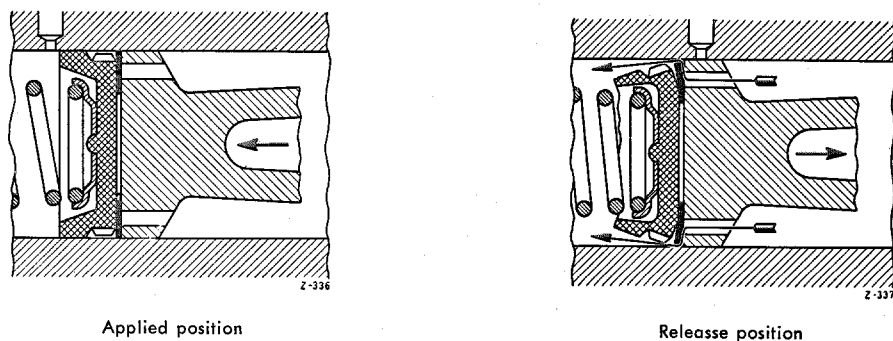

Fig. 42 — 0/7
In order to prevent air from being sucked in when the brake cylinder piston returns to its initial position quickly, a ring-shaped fluid chamber is arranged behind the primary piston cup which is supplied with brake fluid via the connecting port (2) (see Fig. 42 — 0/5).
When the brake is applied, the sealing lip of the primary cup seals off the pressure chamber, the piston cup washer presses against the bores which are arranged in a circle around the piston, thus preventing damage to the primary cup by the connecting ports (Applied position, Fig. 42—0/7). When the brake is released, the primary cup folds up, and the piston cup washer moves away from the piston head. Thus, the brake fluid can flow from the fluid chamber in the piston through the connecting ports into the pressure chamber (Release position, Fig. 42—0/7).